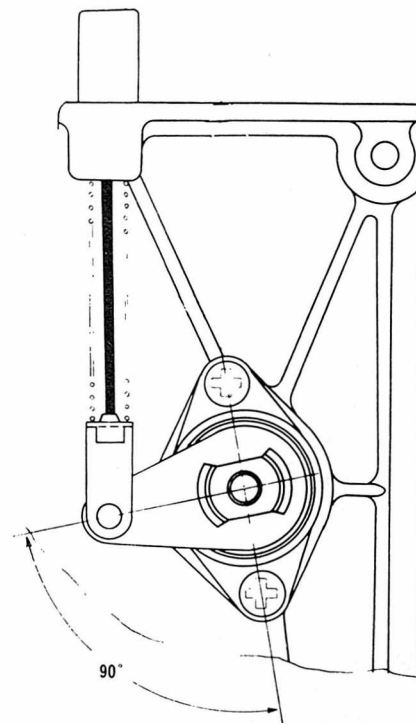

Fig. K4-8 — View of clutch release arm with cable adjusted correctly.
**CLUTCH CONTROLS.** Remove drive sprocket cover and turn cable adjuster beneath fuel tank to obtain 90 degree angle (Fig. K4-8) in release arm. Reinstall cover and remove rubber plug on F5 and F8 models or magneto cover on F6 and F7 models.